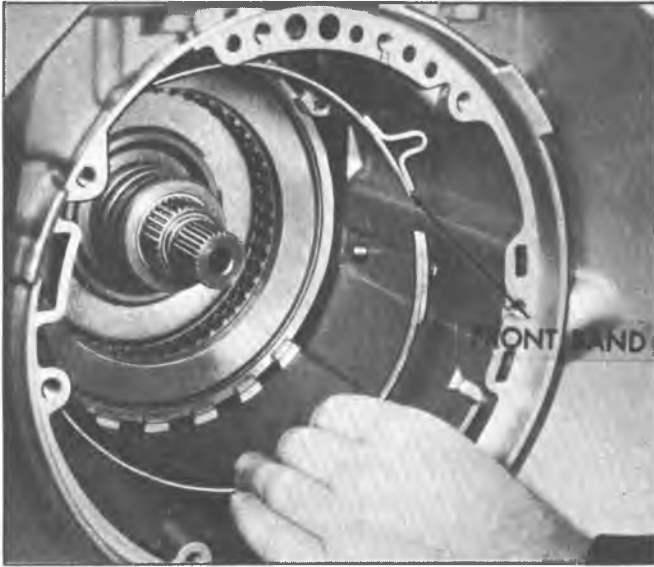

Fig. 133T--Installing Front Band
16. Install front band with anchor hole placed over band anchor pin and apply lug facing servo hole (fig. 133T).